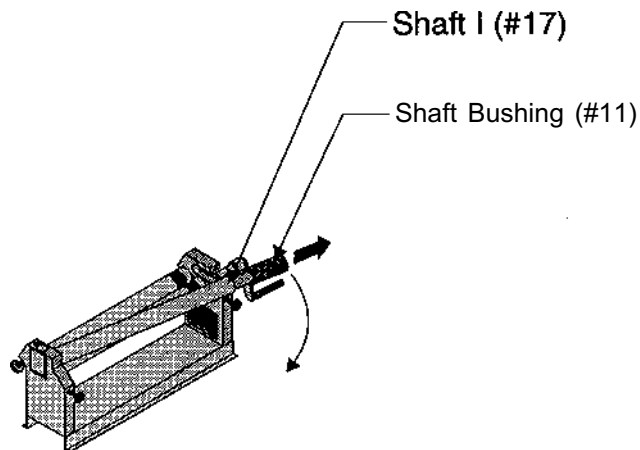

Figure 4 -- Removing Partial Rolls
Step 4: If you are only performing partial rolls and need to remove the material, slide out the SHAFT BUSHING (#11) and pull Shaft I forward. See Figure 4.